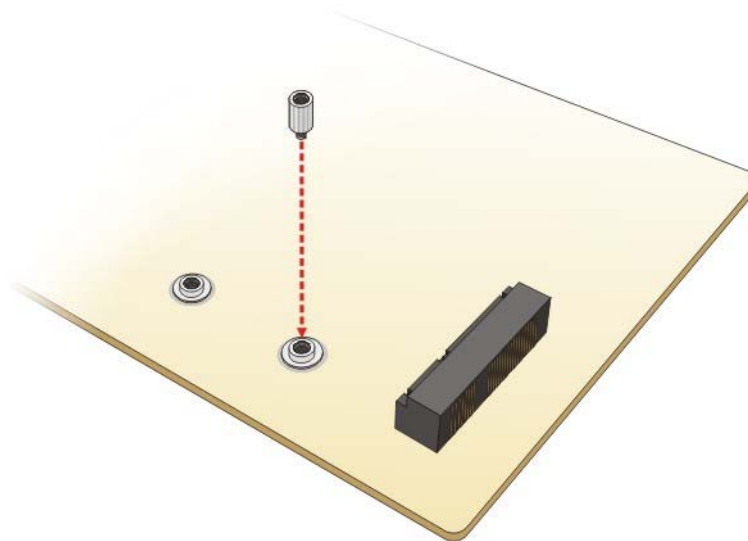

Figure 4-12: Installing the Standoff
Step 4: Install the standoff to the screw hole for the half-size PCIe Mini card. Install the previously removed standoff to the screw hole for the half-size PCIe Mini card (Figure 4-12).